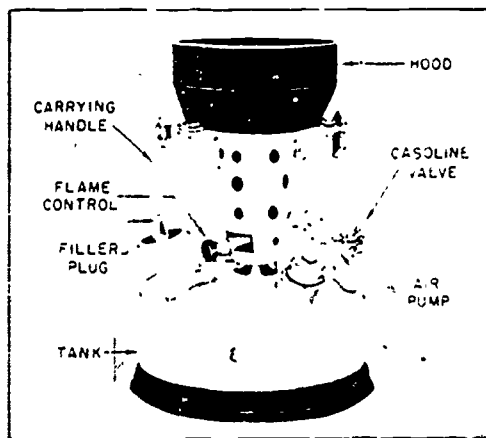

Figure 3-40 Gasoline melting furnace
**Melting Furnace.** The melting furnace, shown in figure 3-40, is used to melt lead when you are making soil pipe joints. It operates on white gasoline (not leaded). Many of these furnaces have been used in the past. There are still some being used in the Air Force. Another type of melting furnace is one that is operated on propane gas. You saw it in figure 2-2. It is an